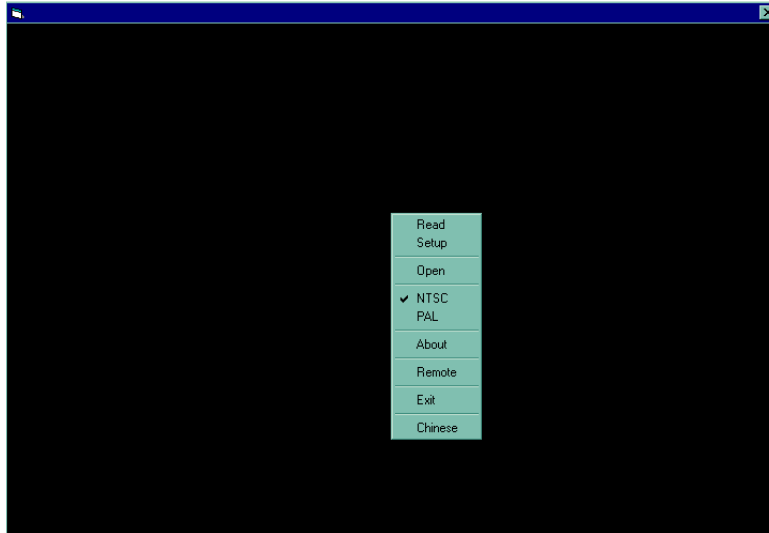

Figure 15
- On the PC, right-click in the REI Viewer window. This brings up a function menu. See Figure 15.